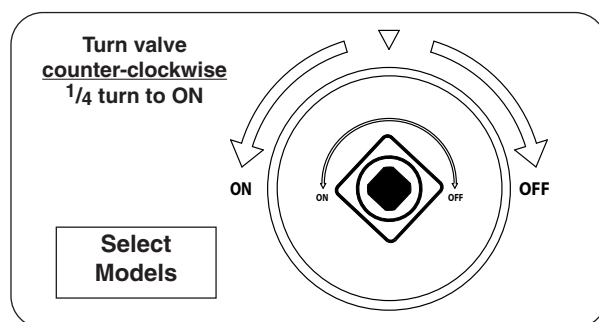

Fig. 39-2 ON/OFF key valve detail
2. If equipped, turn the ON/OFF key valve counter-clockwise a $\frac{1}{4}$ turn to the **ON** position (Fig. 39-2).